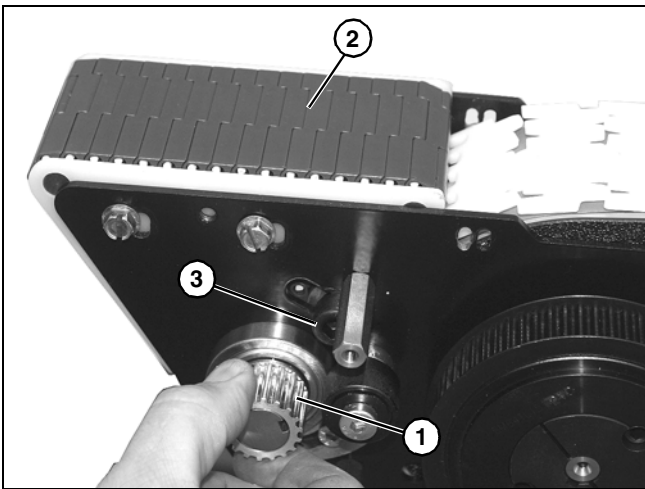

Figure 110
9. Rotate drive shaft (**Figure 110, item 1**) to verify tightness of belt (**Figure 110, item 2**). Belt should turn freely. Loosen hex head screw (**Figure 110, item 3**) and adjust, if necessary.